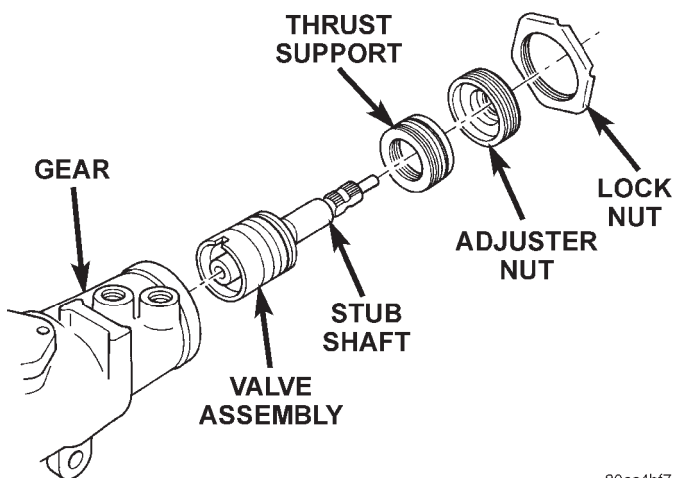

Fig. 11 Valve Assembly With Stub Shaft
(4) Pull stub shaft and valve assembly from the housing (Fig. 11).